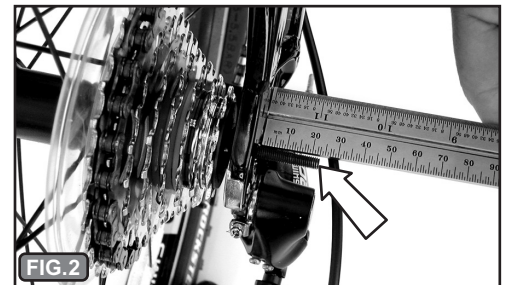

FIG. 2 Measuring threaded QR rod extending past drop out face (QR must be in the closed position)
3) Check for a minimum of 3/8 inch (10mm) and maximum 3/4 inch (19mm) of threaded rod extending past the drop out face, **Fig. 2**.